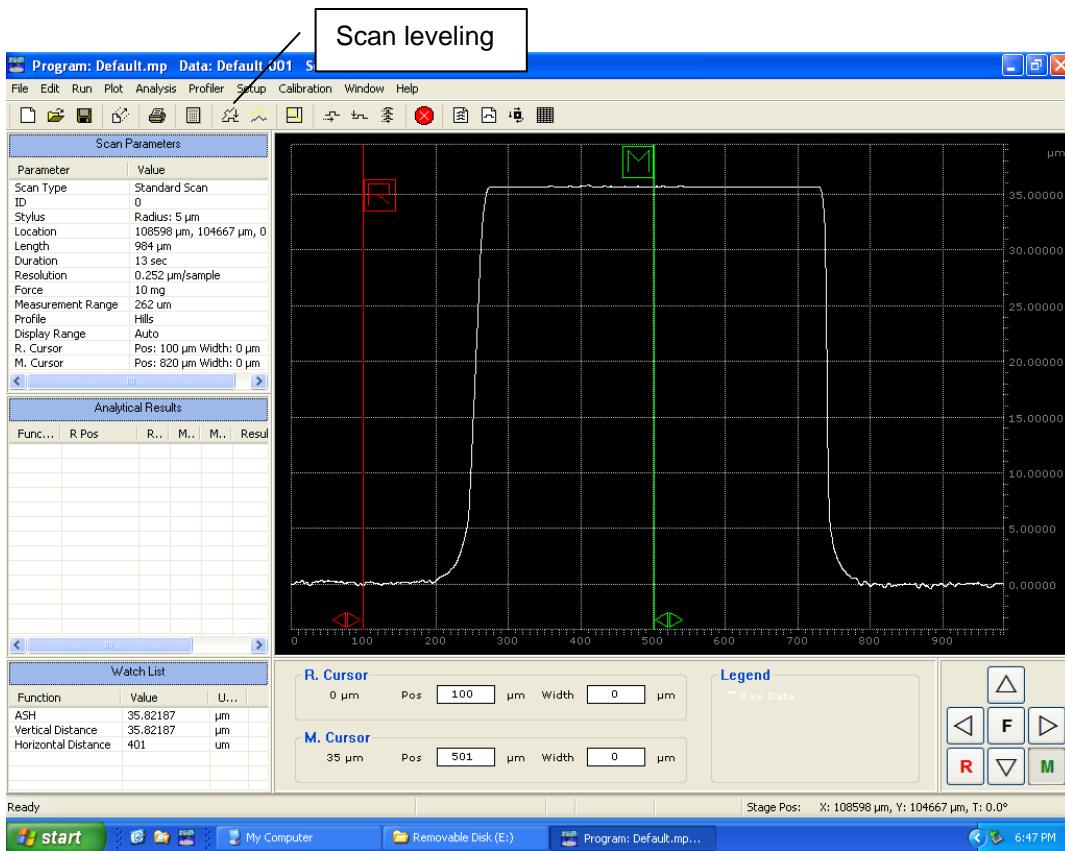

Figure 7: Measurement result.
- j) After scan finishes, window in Figure 7 will show up with measurement result.
- a) Level the scan by placing R (reference) and M (measure) cursors at the baseline and clicking the leveling icon (Figure 7). It will also set baseline at zero.